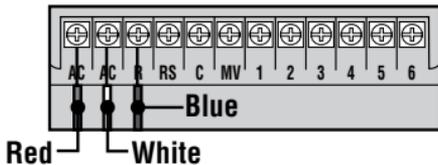

**Figure 1**
2. Feed the red, white, and blue wires of the SmartPort® through the base of the "Tee" and into the controller wiring compartment as shown in Figure 1.
3. Screw the SmartPort® housing into the "Tee" (or other fitting) as shown in Figure 1.